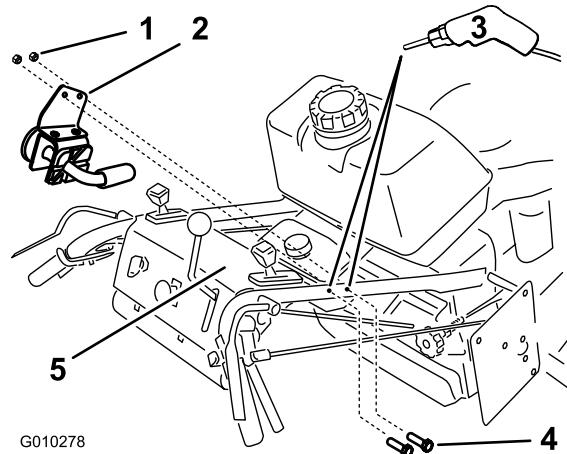

Figure 8
3. Install the handle assembly to the machine with 2 bolts (1/4 x 1-3/4 inches) and 2 locknuts (1/4 inch)(Figure 8).